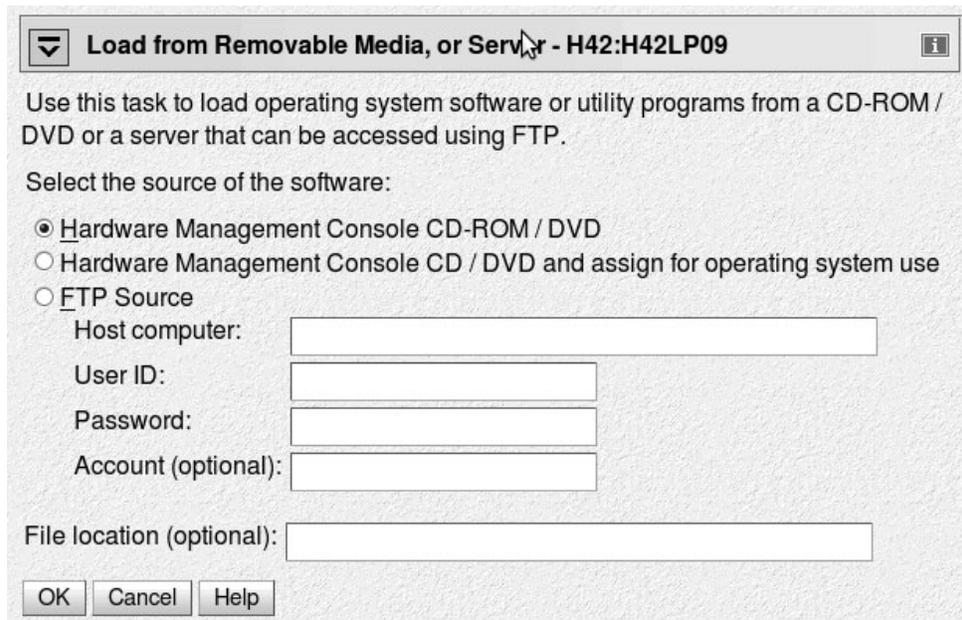

Figure 70. Load from Removable Media or Server panel
- a. Select **Hardware Management Console CD-ROM/DVD** (see Figure 70).